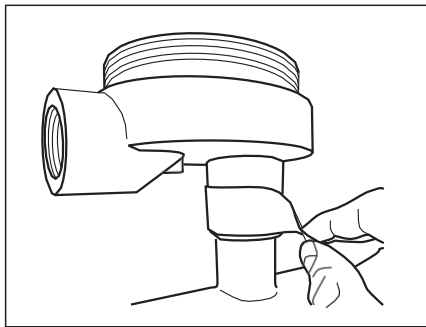
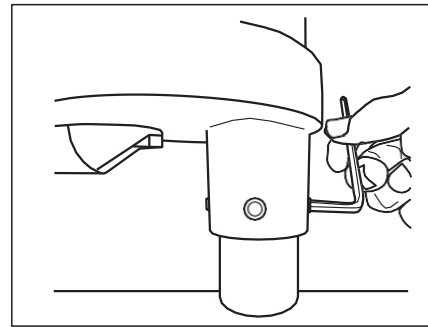

Fig. 7.19
Fig. 7.20
- ⑥ Remove caution label (sticker) and loosen hex-socket head screws (4 places). (Fig.7.19, Fig.7.20)
- ⑦ Rotate terminal box without exerting excessive force onto sensor cables.
- ⑧ After rotating, reassemble terminal box in reverse procedure.